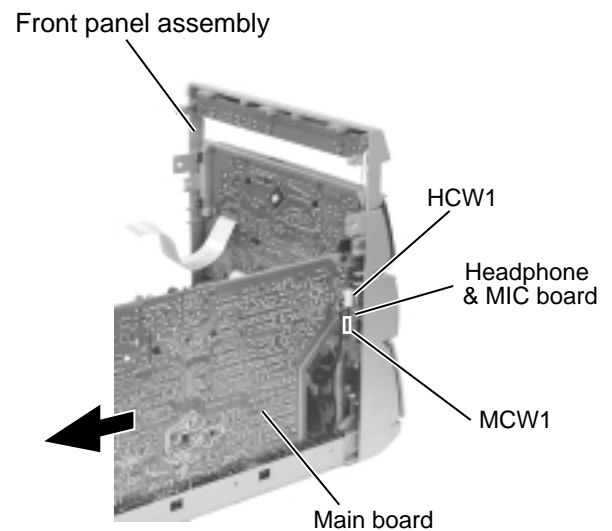

Fig.15
■ Removing the main board (See Fig.15 and 16)